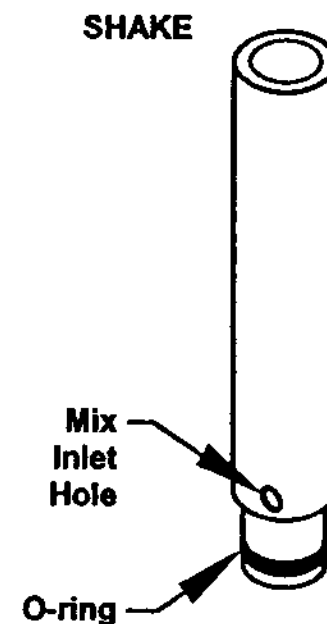

**Fig. 5**
5. Remove the front plate by turning the black plastic knobs in a counterclockwise direction (Fig. 5). Disassemble the front plate in the following manner: